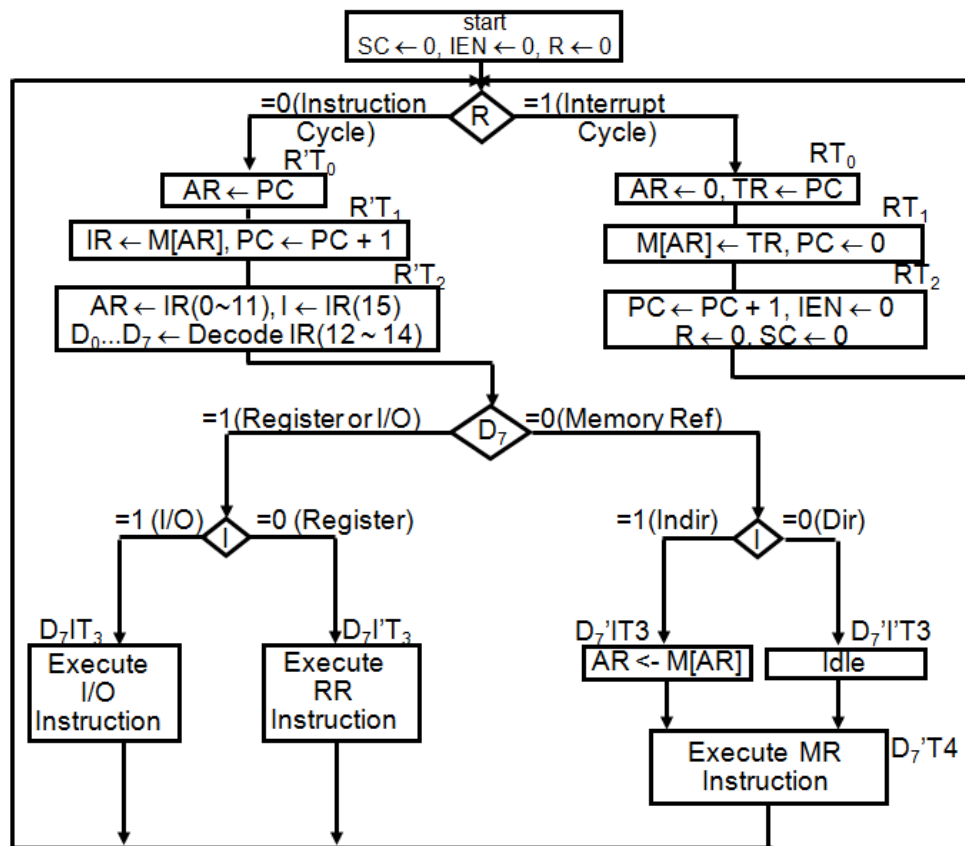

Figure 2.15: Flowchart for computer operation
- The final flowchart of the instruction cycle, including the interrupt cycle for the basic computer, is shown in Figure 2.15.